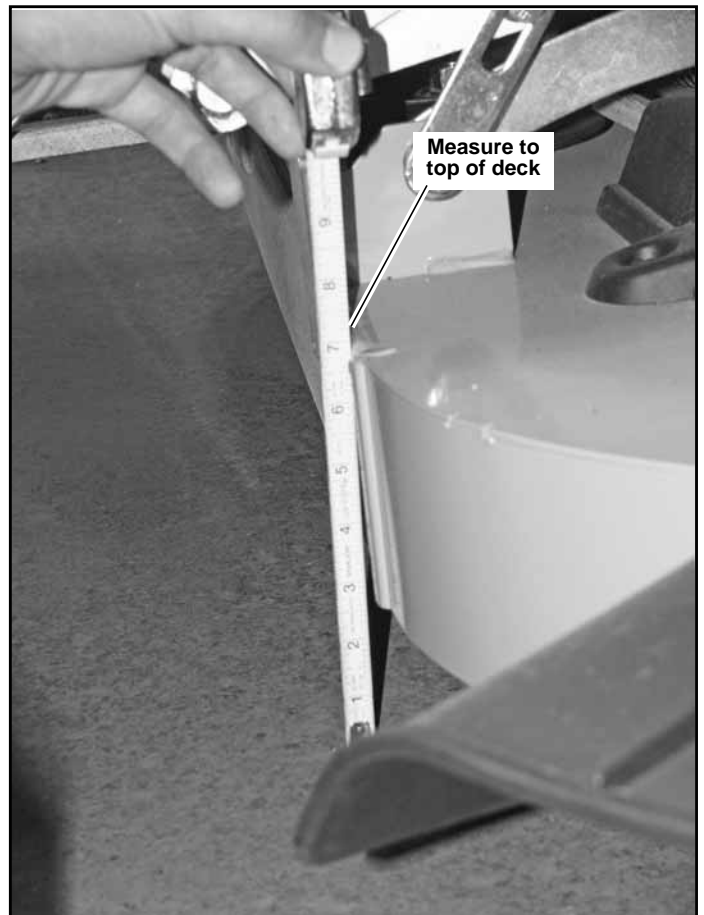

Figure 6-3
5. Measure the right rear of the deck from the ground to the top of the deck. Figure 6-3